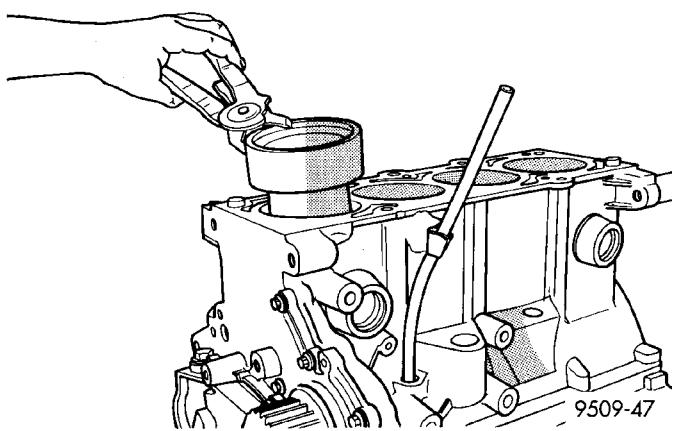

Fig. 66 Piston—Installation
(4) Immerse the piston head and rings in clean engine oil, slide the ring compressor over the piston (Fig. 66). **Be sure position of rings does not change during this operation.**